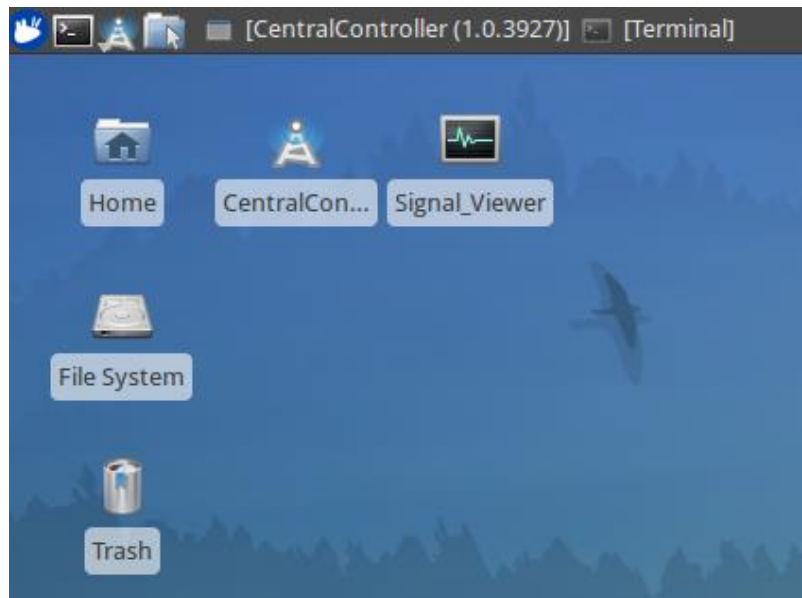

Figure 6. Central Controller desktop screenshot.
- a. On the Central Radar Controller desktop screen shown in Figure 6, double click the icon labeled ***“CentralCon.”***